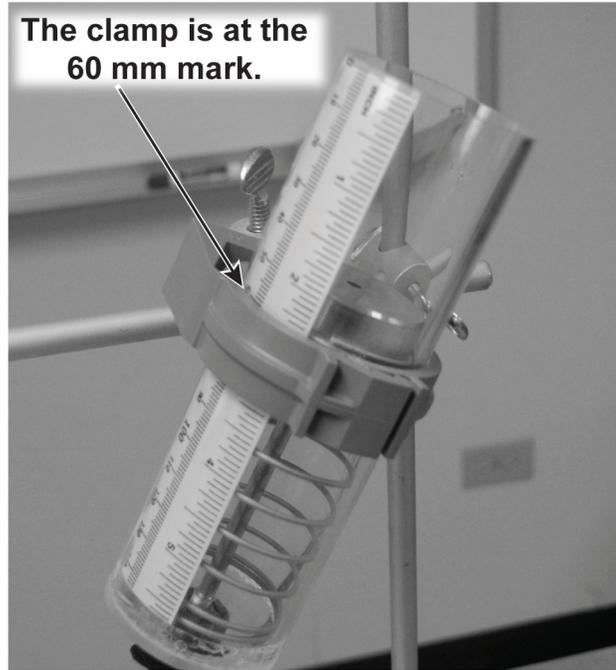

Figure 12
- 5. Clamp the projectile apparatus at the 60 mm mark of the scale as shown in Figure 12.